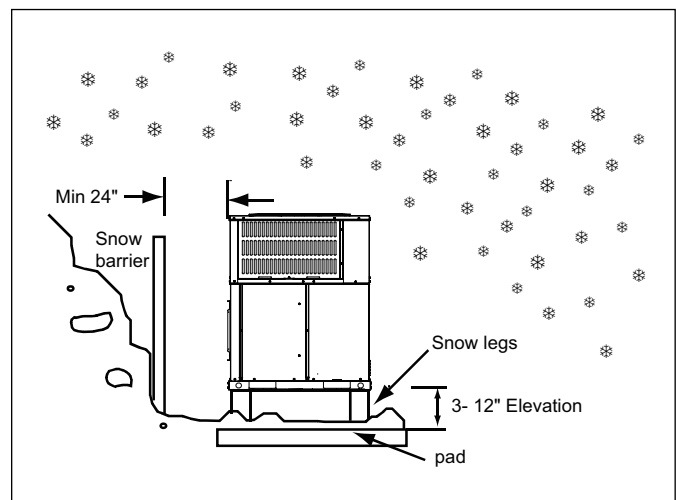

Figure 15 Insulation Layer
- Units should be elevated 3-12 inches above the pad or rooftop, depending on local weather. This additional height will allow drainage of snow and will permit condensate water to drain when the unit is in defrost mode. Ensure that drain holes in unit base pan are unobstructed, preventing drainage of defrost water (See Figure 15).